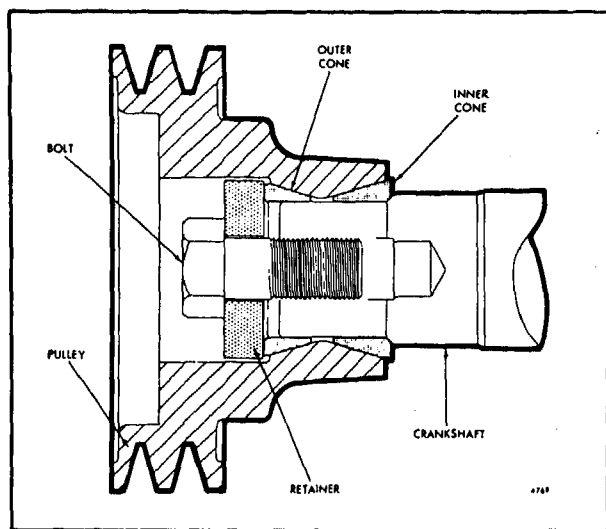

Fig. 3 - Cone Mounted Pulley
2. Slide the inner cone (Fig. 3), if used, on the crankshaft.
7. Slide the outer cone (Fig. 3), if used, on the crankshaft.